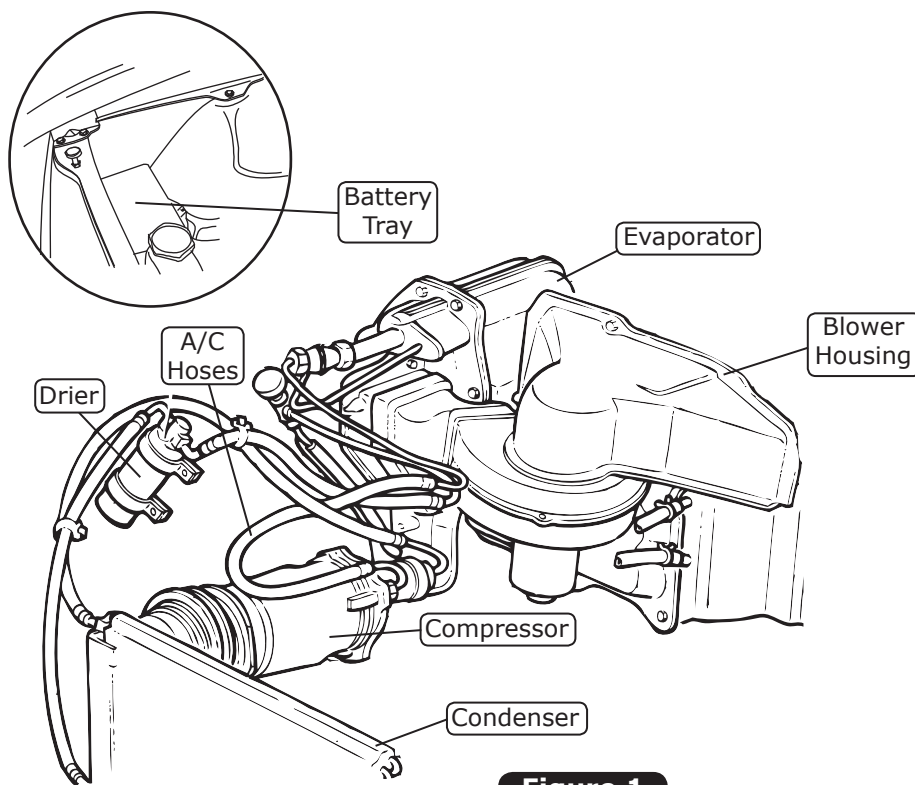

Figure 1
6. Remove the OEM condenser and drier (discard) (See Figure 1, below).
7. Remove the OEM A/C lines from the compressor to the evaporator (discard) (See Figure 1, below).
8. Remove the OEM compressor and bracket (discard) (See Figure 1, below).
10. Remove the OEM heater hoses, A/C hoses, and hardlines (discard) (See Figure 1, below).